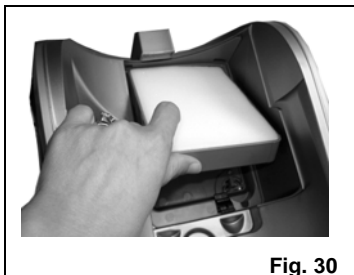

Fig. 30
4. Remove the pre-motor filter frame. (Fig. 30)